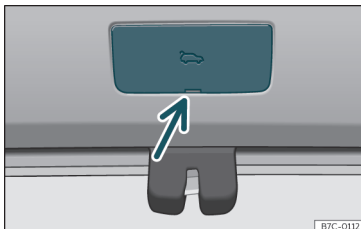

Fig. 7 Luggage compartment: access to manual release.
- Remove the cover using the key blade as a lever » » **Fig. 7**.